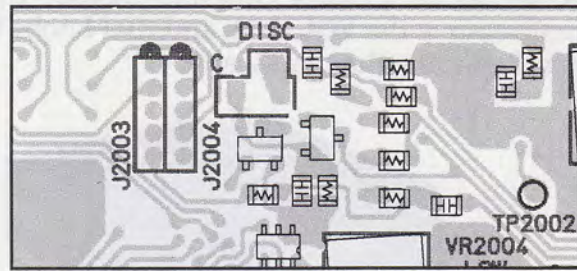

Fig. 2 RX Audio Component Location
- Locate the unused pad beneath connector J2004, labeled **C** (Fig. 2). Install a 0-Ω chip resistor* across at this location, and a wire to the pad just to the left labeled **DISC**. This makes the connection for de-emphasized discriminator audio output for decoding.